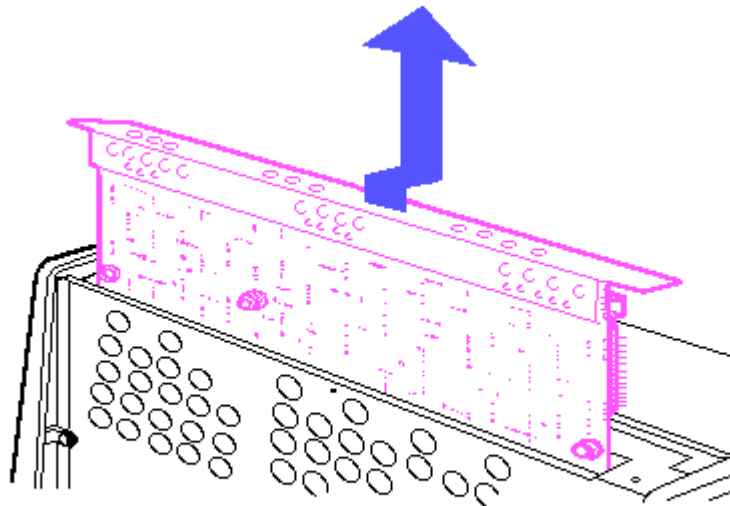

Figure 7.10-3. Removing the System Board
6. Slide the system board to the rear, lifting it slightly upward, so that the six nylon standoffs (attached to the bottom of the system board) clear the mounting holes. Carefully lift the system board out of the chassis (Figure 7.10-3).